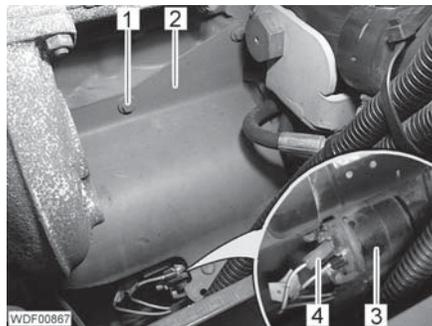

Fig. 418 Starter
- Unscrew the 3 screws (Fig. 418,1) and remove the metal plate (Fig. 418,2).
- Disconnect the electrical cables (Fig. 418,4) from the starter (Fig. 418,3).
- Connect the electrical cables (Fig. 418,4) to the starter (Fig. 418,3).
- Position the metal plate (Fig. 418,2).
- Screw in 3 screws (Fig. 418,1) with washers and tighten.